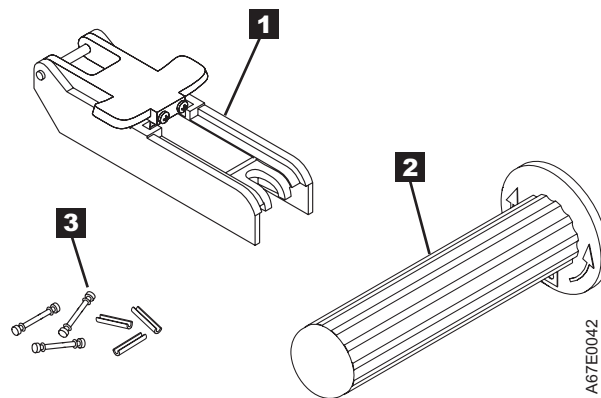

Figure 54. Leader Pin Reattachment Kit
- **Leader pin attach tool** (see **1** in Figure 54). A plastic brace that holds the cartridge door open.
- **Cartridge manual rewind tool** (see **2** in Figure 54). A device that fits into the cartridge's hub and lets you wind the tape into and out of the cartridge.
- **Pin supplies** (see **3** in Figure 54). Leader pins and C-clips.